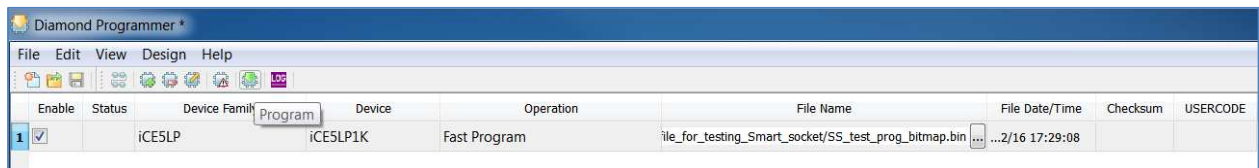

Figure 5.26. iCE40 Family – Program Icon
4. Click the **Program** icon  to program the device as shown in Figure 5.26.